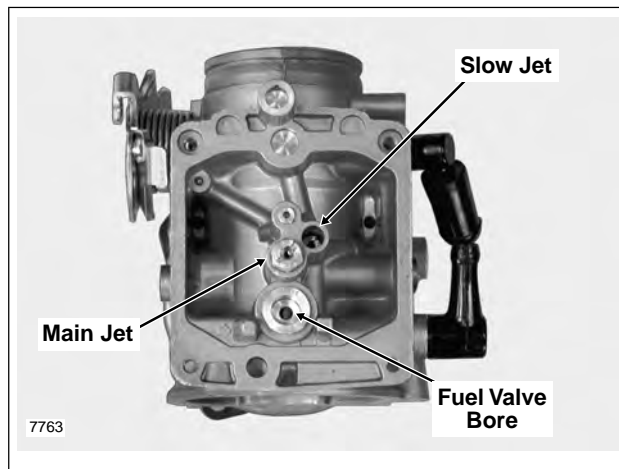
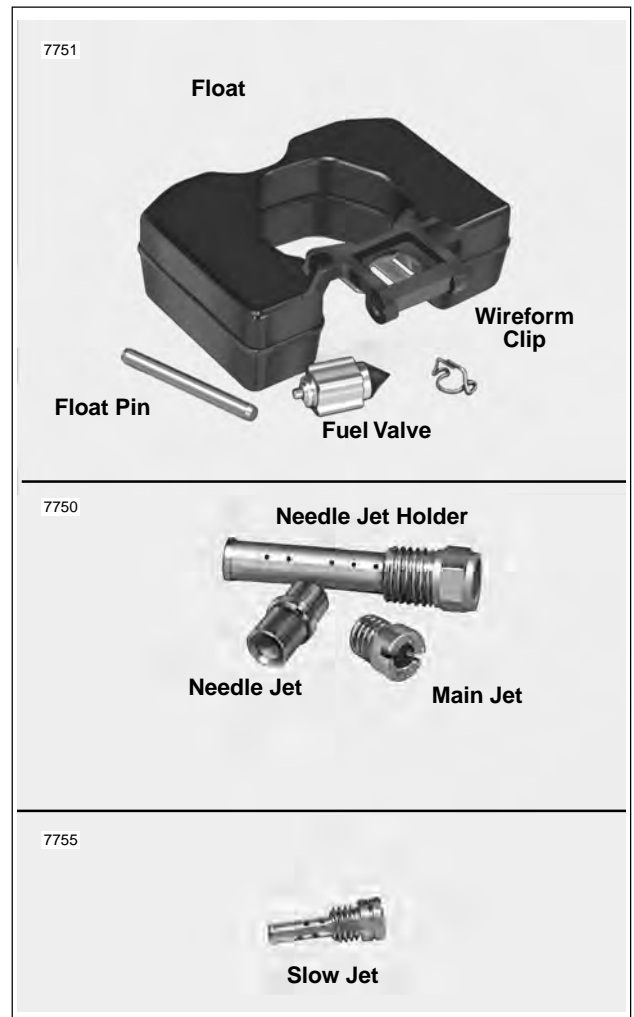

Figure 4-17. Carburetor Housing
Figure 4-18. Carburetor- Bottom End
3. Remove float and fuel valve. Carefully slide clip on fuel valve from tab on float. Remove wireform clip from groove in fuel valve. See upper frame of Figure 4-18.
4. Using slot at top, turn main jet with flat tip screwdriver to unthread from needle jet holder. If necessary, hold hex on needle jet holder with a 5/16 inch wrench to prevent rotation. See Figure 4-17.
6. Turn carburetor right side up to drop out needle jet, which is loose in main jet bore. See middle frame of Figure 4-18.
7. Insert thin bladed flat tip screwdriver into slow jet bore, and using slot at top of slow jet, unthread to remove. See Figure 4-17. and lower frame of Figure 4-18.
1. Thoroughly clean all loose parts with carburetor cleaner. See Figure 4-18. Blow dry using low pressure compressed air.
1. Insert slow jet into slow jet bore. See Figure 4-18. Insert thin bladed flat tip screwdriver into bore, and using slot at top of slow jet, tighten until snug.
2. Place needle jet into main jet bore. See Figure 4-18. Be sure end with chamfered edge and larger ID goes in first.
6. Place float into cavity of carburetor inserting fuel valve into bore between pedestals. See Figure 4-17.